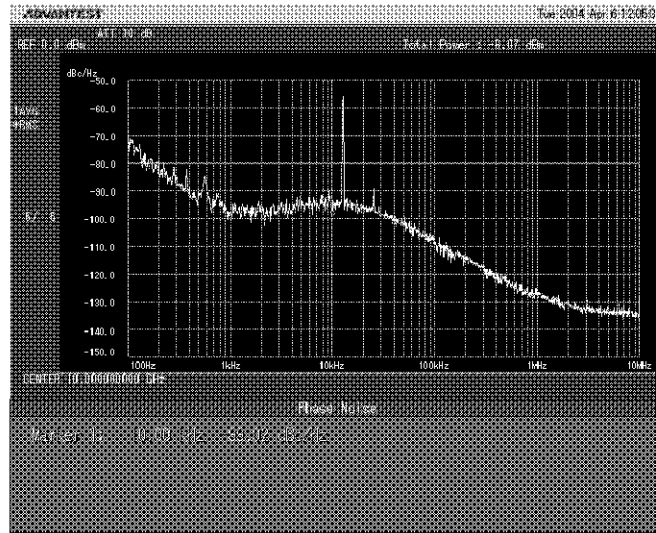

Figure 2-9 In High Resolution Mode
- 3. The phase noise is measured in the high resolution by touching **More2/2** and **Resolution (High)** in the soft menu bar. Figure 2-9 shows that the phase noise at the 10-kHz offset frequency that was masked by the spurious signal is now measured correctly.